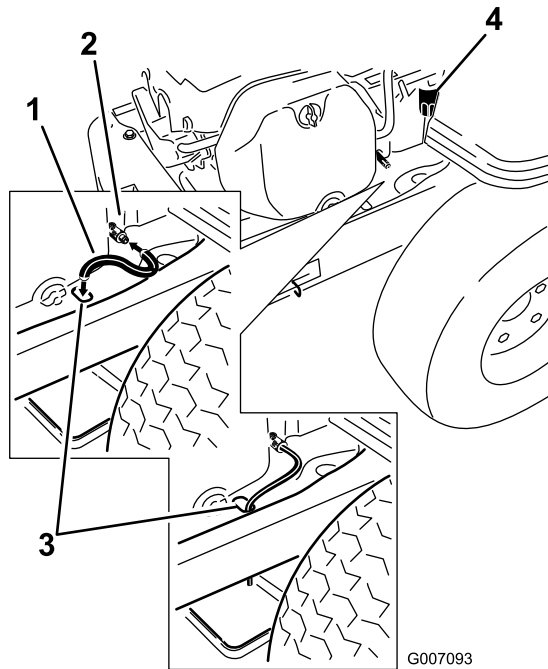

Figure 33
4. Clean the area around the drain valve and on the machine frame. Locate the oil drain hose and slide it over the drain valve (Figure 33).
5. Place the opposite end of the oil drain hose over the end of the frame (Figure 33).